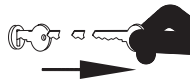

FIG. 4-43
3. Remove the capscrews, flat washers, lock washers, and hex nuts from the sweep, then remove the sweep from the shank. (Fig. 4-43)
7. Install the sweep onto the shank using the capscrews, washers, lock washers, and flange nuts. (Fig. 4-43)